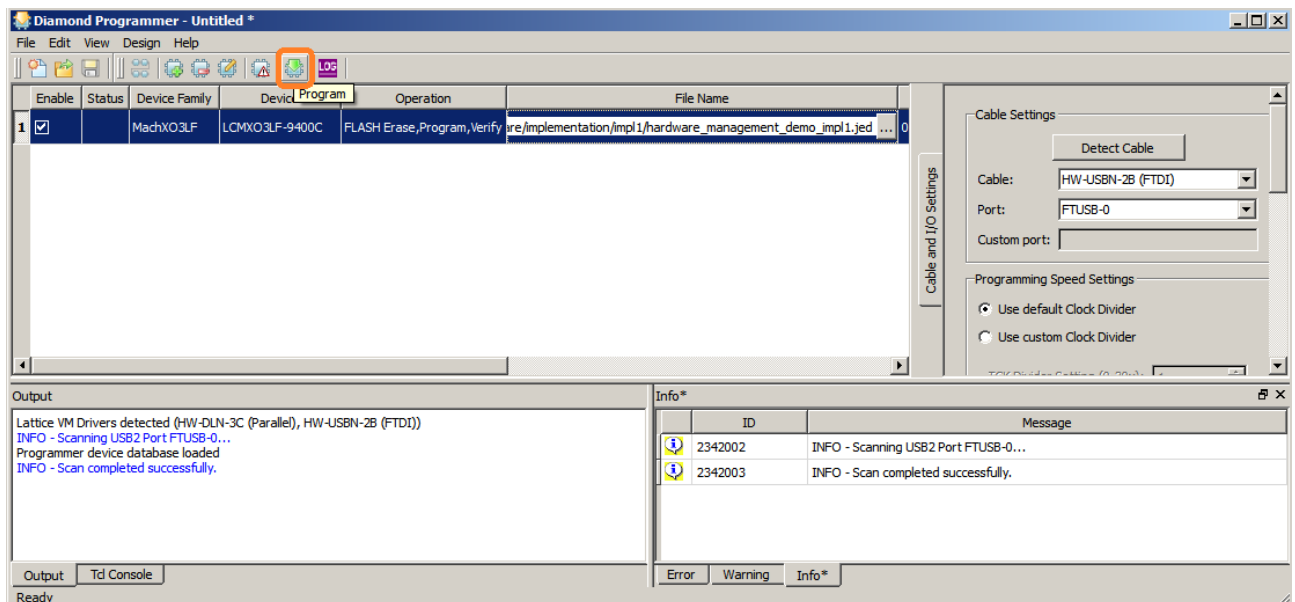

Figure 8.7. Starting Programming Operation
2. Click the **Program** button as shown in Figure 8.7.